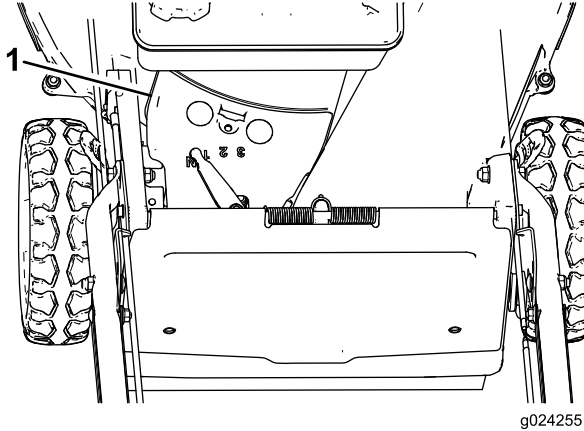

Figure 34
3. Remove the belt cover (Figure 34) from the mower housing.